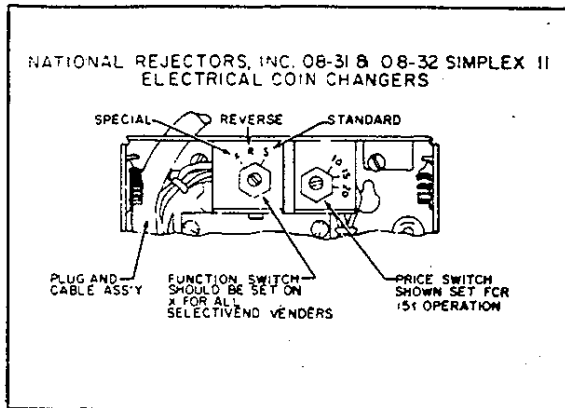

Figure 2-1. Coin Changer Adjustment
2.5 COIN MECHANISM ADJUSTMENT (See Figure 2-1.)
2.5.1 If Simplex II coin changer (manufactured by National Rejectors, Inc.) is to be installed in the vender, adjust the coin changer as shown in Figure 2-1.